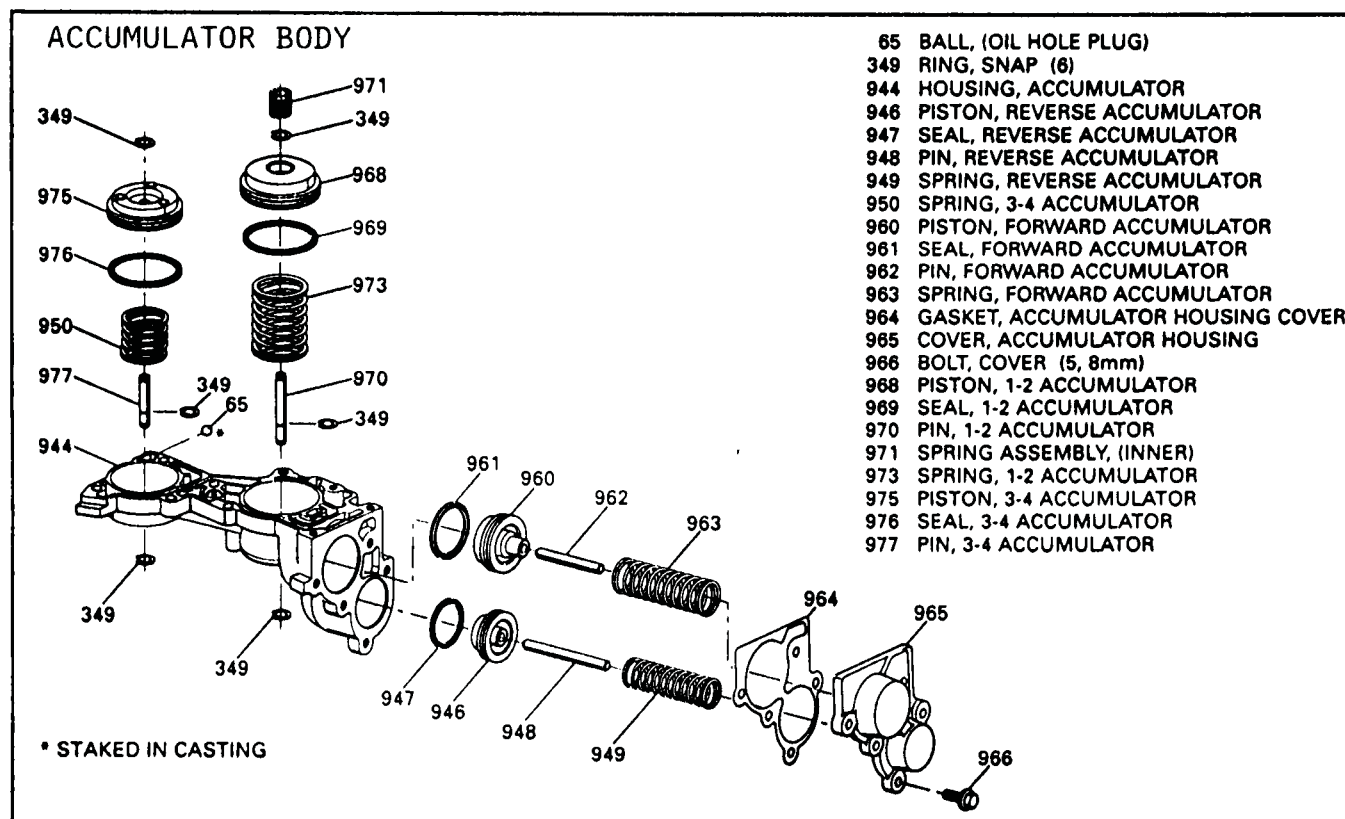

Figure 80
7. Use the illustrations in Figure 80 to reassemble the accumulator body, using new seals and gaskets.